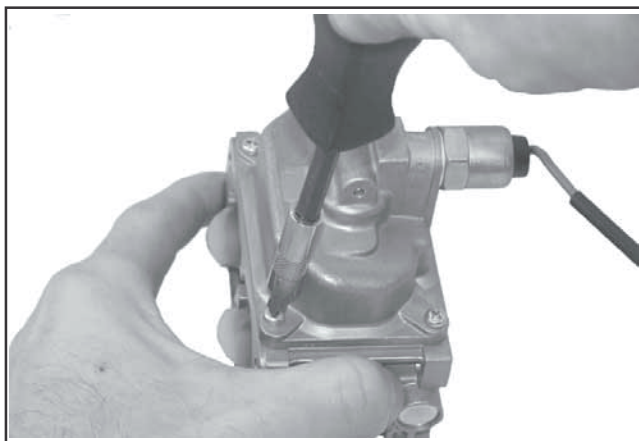

Figure 5-28. Installing Fuel Bowl.
16. When the proper float height is obtained, carefully reinstall the fuel bowl, using new O-Rings onto the carburetor. Secure with the four original screws. Torque the screws to **2.5 \pm 0.3 N·m (23 \pm 2.6 in. lb.)**. See Figure 5-28.